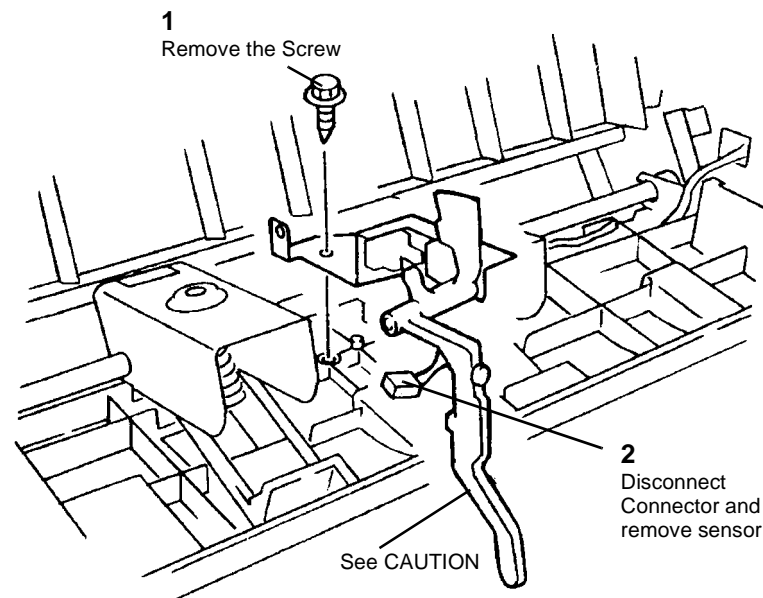

Figure 2 Removing Stack Height Sensor Assembly
2. Open the Top Cover and remove the Stack Height Sensor Assembly (Figure 2).